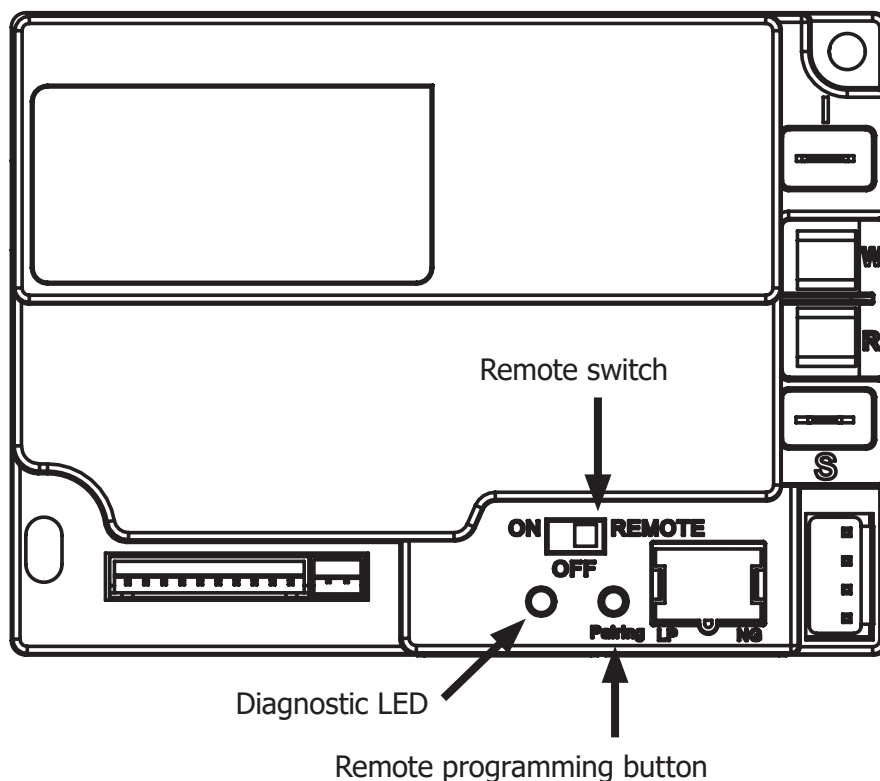

Figure 5: Remote Programming
- Verify the ON/OFF/REMOTE switch is in the REMOTE position. Green LED light will blink three times and wall switch will beep once 5 seconds later when ready (see Figure 5).
- Using a small item (such as a paper clip) press and release the LEARN button located near the ON/OFF/REMOTE switch (see Figure 5).
- Move switch to OFF (see Figure 5).